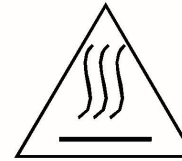

Fig. 2
- Any accessible surfaces may become hot during use (Fig. 2).